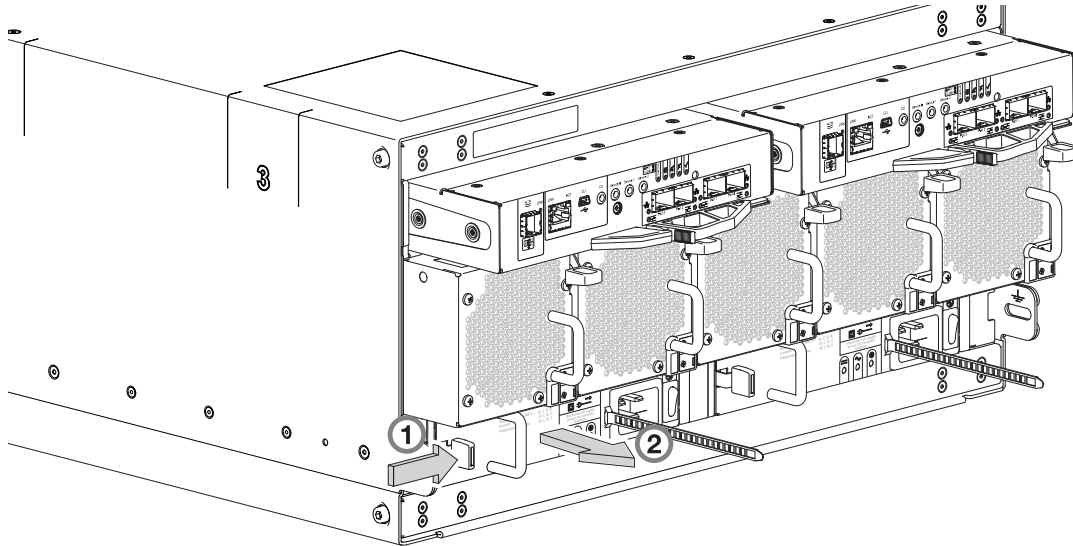

Figure 107 Removing a PSU (1 of 2)
7. Refer to Figure 107 \(page 135\) when performing this step: